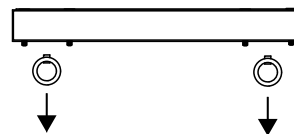
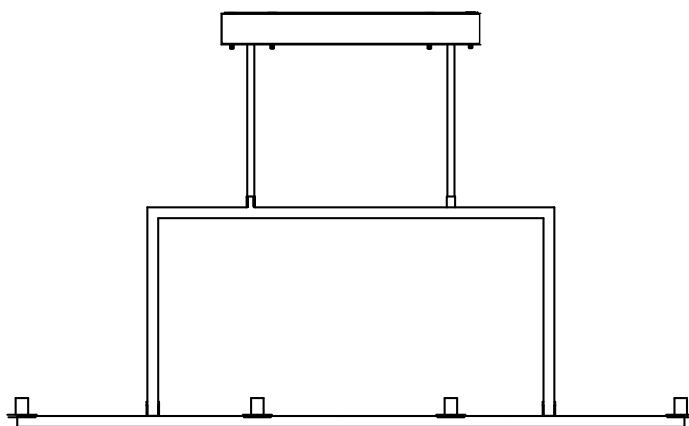

Figure 8
Figure 9
- C. Unscrew the loops from the canopy (D) (Figure 8) and thread the other end of rods (E) directly to the canopy (D) (Figure 9).